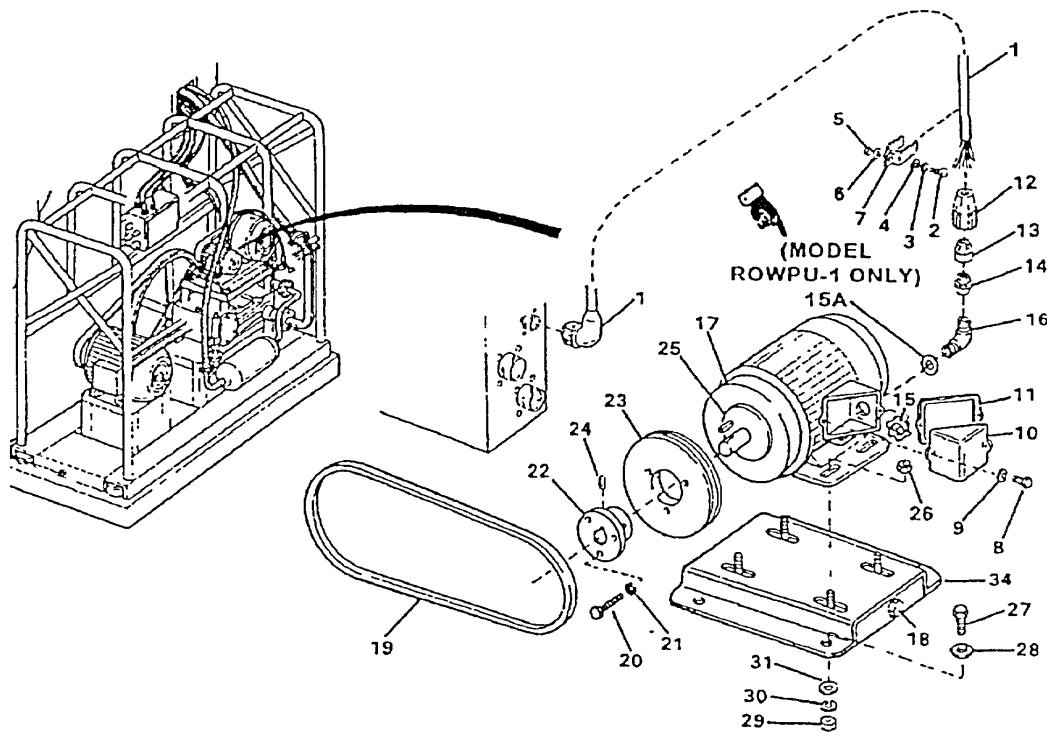

Figure 4-93. Air Compressor Motor (sheet 1 of 2) Components
- a. Disconnect cable (1, Figure 4-93, sheet 1) at the junction box.
- b Remove four capscrews (2), lockwashers (3), washers (4), nuts (5), washers (6) and clamps (7)
- c. Remove two screws (8), washers (9), cover (10) and gasket (11).
- d. Refer to Figure 4-93, sheet 2, and disconnect and tag all cable leads (1T0, 1T1, 1T2 and 1T3) at the motor and remove grounding screw (32) and washers (33).
- e. (Model WA-060 only) Loosen nut (12, sheet 1) and slide nut (12), retainer (13), and bushing (14) back on cable (1). Pull cable (1) out of the motor (17) box and slide bushing (14), retainer (13) and nut (12) off the cable. Remove elbow (16) and conduit nut (15) from conduit box.
- f. (Model ROWPU-1 only) Loosen nut (12, sheet 1) and slide nut (12), retainer (13), and bushing (14) back on cable (1). Pull cable (1) out of the motor (17) box and slide bushing (14), retainer (13) and nut (12) off the cable. Remove sealing washer (15A), elbow (16) and conduit nut (15) from conduit box.
- g. Loosen nuts (26) and turn jackscrew (18) counterclockwise to relieve the tension in belt (19). Remove belt (19)
- h. Remove hub (22) and sheave (23) as follows:
(1) Scribe the motor shaft to indicate the position of hub (22) on the shaft. If the motor is being replaced, measure and record the position of hub (22) on the motor shaft (measure from end of shaft away from motor) so as to be able to return the hub to the correct position on the new motor.
- (2) Mark sheave (23) to show which side faces the motor.
- (3) Remove capscrews (20) and lockwashers (21)
- (4) Remove setscrew (24) which secures hub (22) to motor (17) shaft.
- (5) Reinstall capscrews (20) in the threaded holes of hub (22)